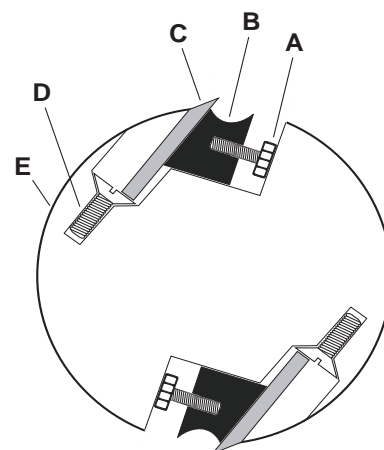

Figure 17
3. Rotate the *cutterhead* (E) until one knife is in the 12 o'clock position. The 12 o'clock position is the highest point a blade will reach in the cutting arc (C, Figure 17).
4. Place the *knife setting gauge* (J) on the *outfeed table* (F). One end of the gauge should be positioned over the *cutting knife* (C) towards the near the end of the blade (G).